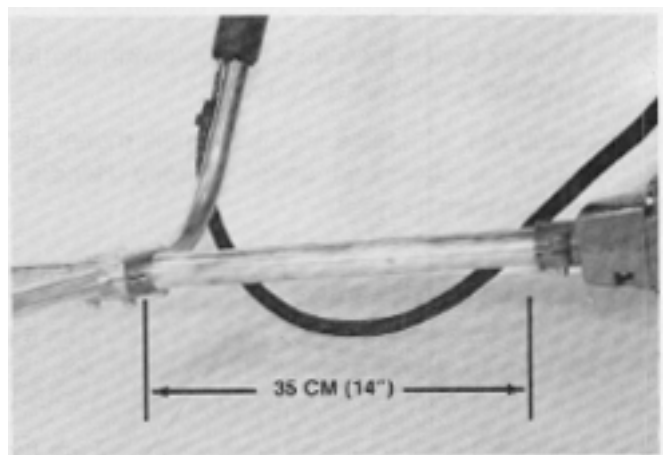

Figure 122
2. Position the handle mount so that it is 35 cm (14 inches) from the clutch housing. See Figure 122.